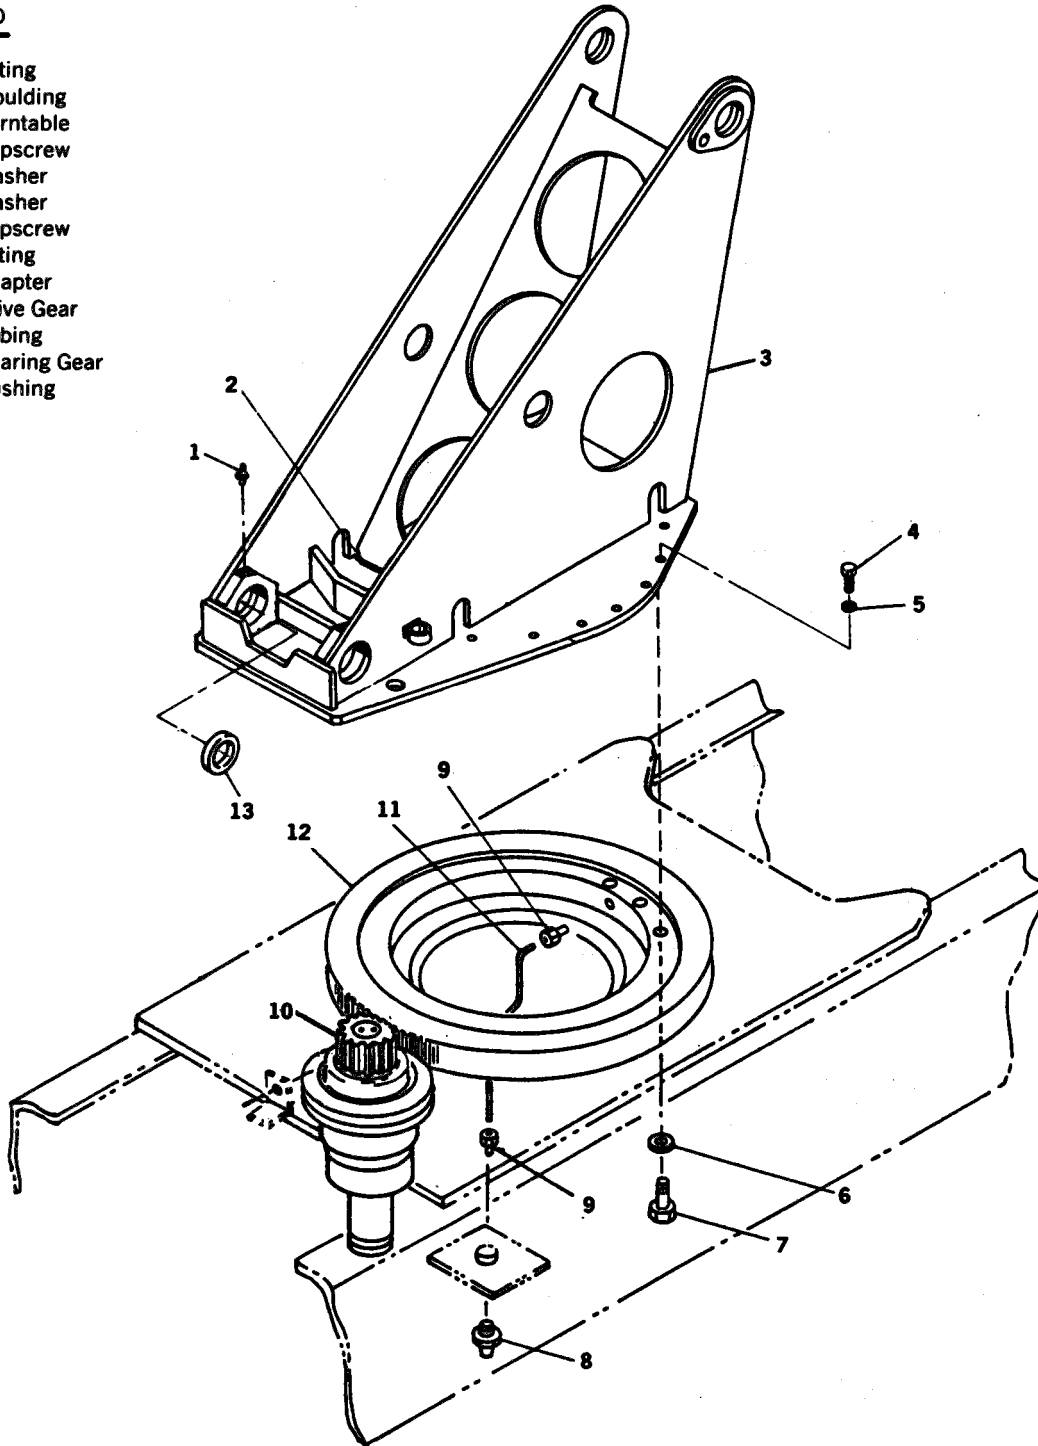
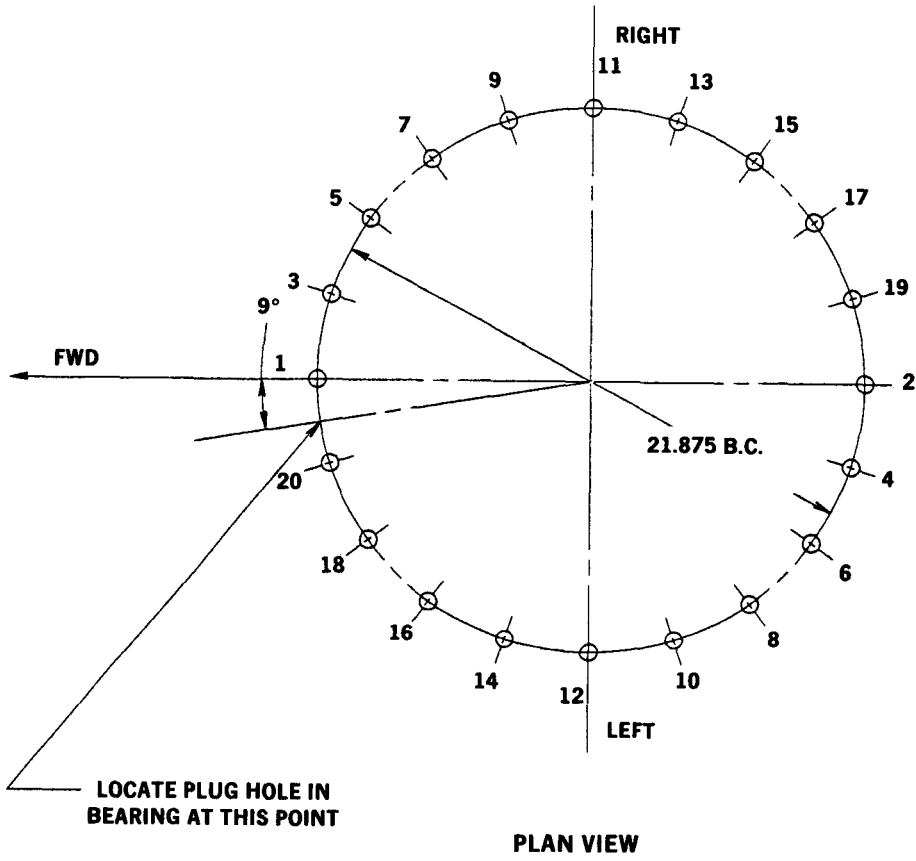
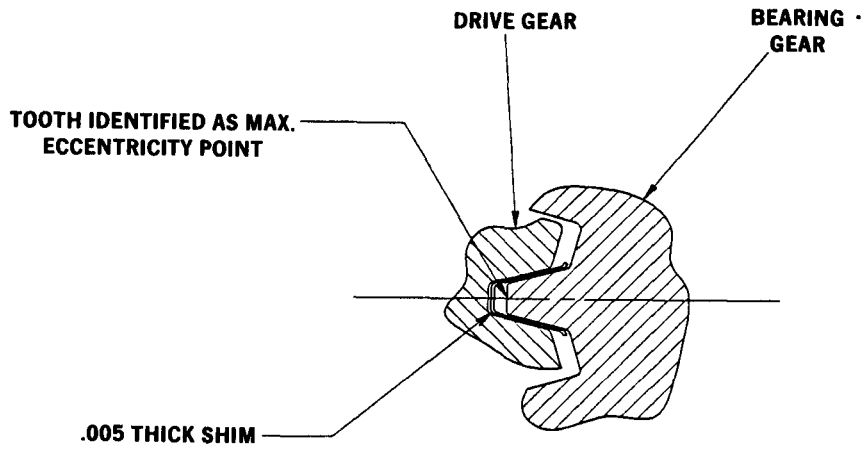

Figure 10-8. Turntable and Bearing Gear
Figure 10-9. Bearing Gear Bolts
Figure 10-10. Bearing Gear Backlash
- e. Remove capscrews (4, figure 10-8) and washers (5).
- e. Inspect bushings (13, figure 10-8) for flat spots and wear.
The bearing gear (12, figure 10-8) weighs 115 pounds.
- a. Install bearing gear (12, figure 10-8). Secure bearing gear with capscrews (7) and washers (6). Install capscrews in sequence shown on figure 10-9. Torque capscrews from 216 to 234 foot pounds.
- c. Install adapters (9), tube (11), and fitting (8).
- d. Install drive gear (10). Figure 10-10 shows drive gear to bearing ring backlash.